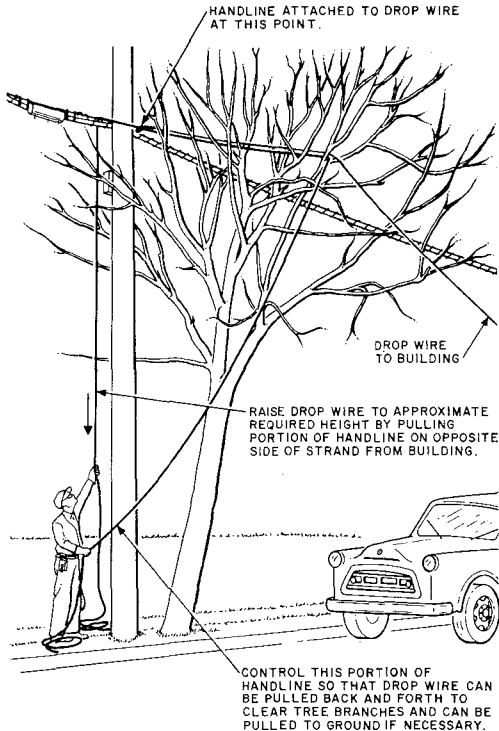

Fig. 11—Raising Drop Wire
(5) When no vehicles or pedestrians are approaching, raise the drop wire by pulling the end of the handline placed over the strand or pole attachment. If necessary, the handline can be pulled in either direction to work the drop wire into position as shown in Fig. 11.